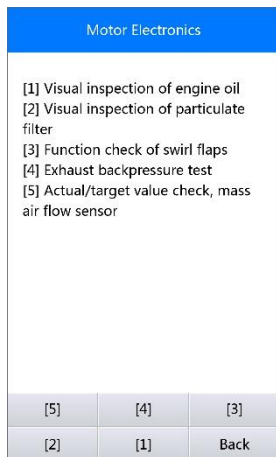

Figure 5-32 Sample Particle Filter Tests
- 1) Select [1] and **OK** button from the particle filter test menu (*Figure 5-32*).
- 1) Select **[2]** and **OK** button from the particle filter test menu (Figure 5-32).
- 1) Select **[3]** and **OK** button from the particle filter test menu (*Figure 5-32*).
- 1) Select **[4]** and **OK** button from the particle filter test menu (*Figure 5-32*).
1) Select **[5]** and **OK** button from the particle filter test menu (*Figure 5-32*).